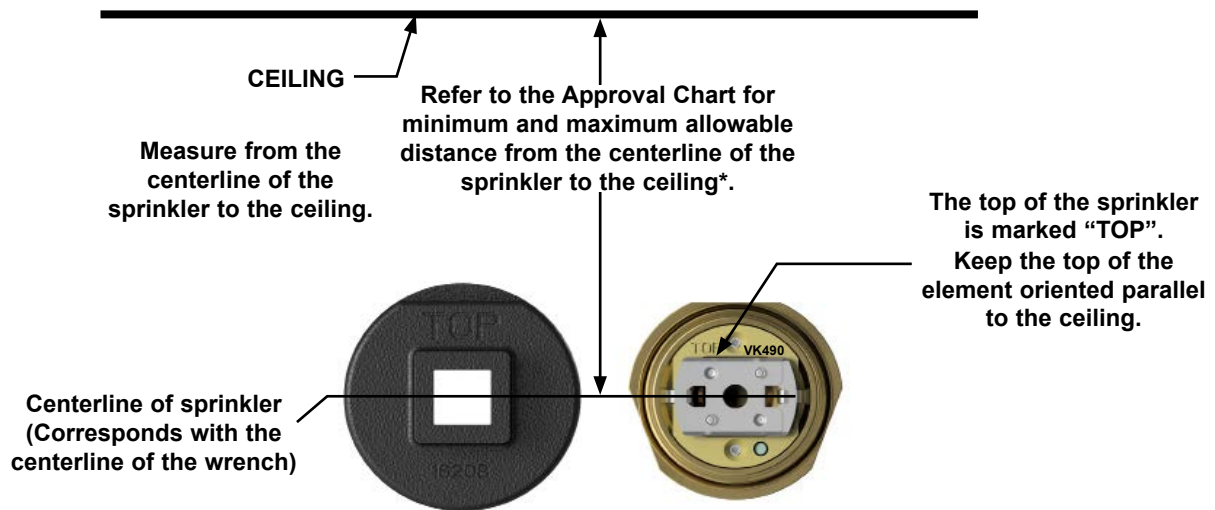

Figure 3: Sprinkler VK490 Correct Deflector Orientation
- **THE TOP OF THE SPRINKLER BODY AND THE TOP OF THE INSTALLATION WRENCH ARE MARKED "TOP".** Orient the top of the sprinkler element parallel with the ceiling as shown in Figure 3.